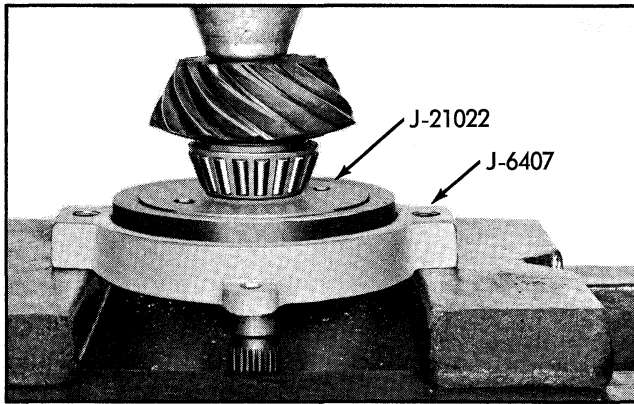

Fig. 4-39 Installing Rear Pinion Bearing
13. Examine ring gear and pinion for nicks, burrs, or scoring. Any of these conditions will require replacement of gear set. If gears are in good condition, slide pinion shim on to pinion shaft and install rear pinion bearing on pinion using installer J-21022 and holder J-6407 in a press or as shown in Fig. 4-39.